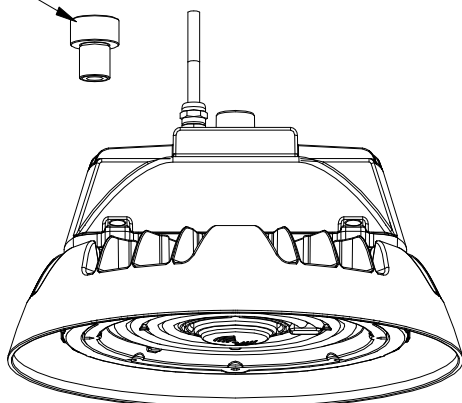
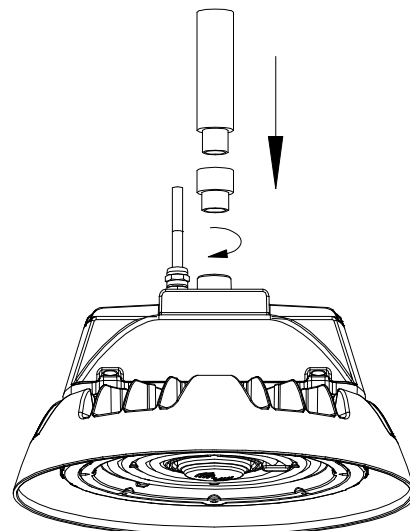

Fig. 7
Fig. 8
1. Use a 3/4" NPS adapter as Fig.7 shows (Pipe and adapter is not provided. Please choose a proper pipe with 3/4" NPS thread), install the 3/4" adapter on the fixture. See Fig.8.